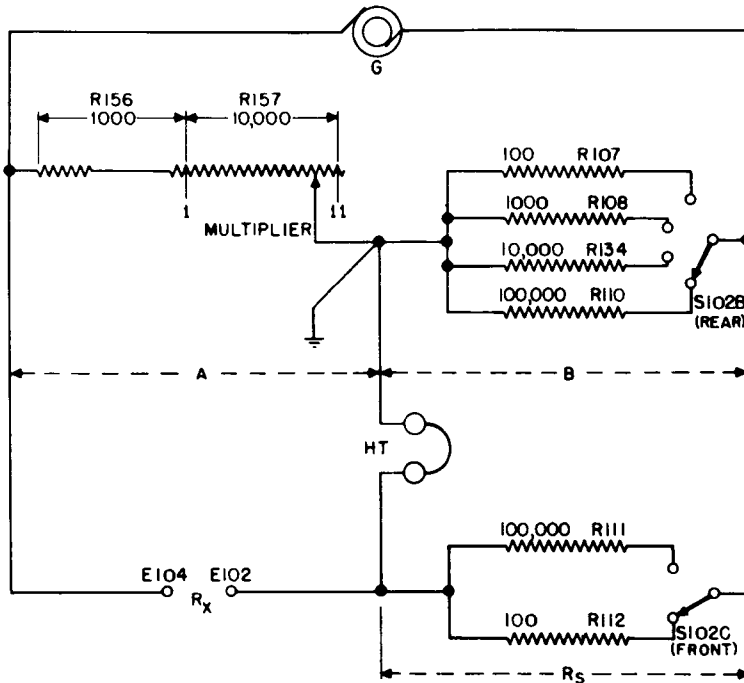

Figure 4-4. Resistance Bridge, Essential Circuits
a. When the FUNCTION switch is turned to 'R' (resistance) the bridge circuit is connected as shown in Figure 4-4.
b. With the FUNCTION switch set at N_1/N_2 , the connections are the same as shown in Figure 4-4 for resistance except for